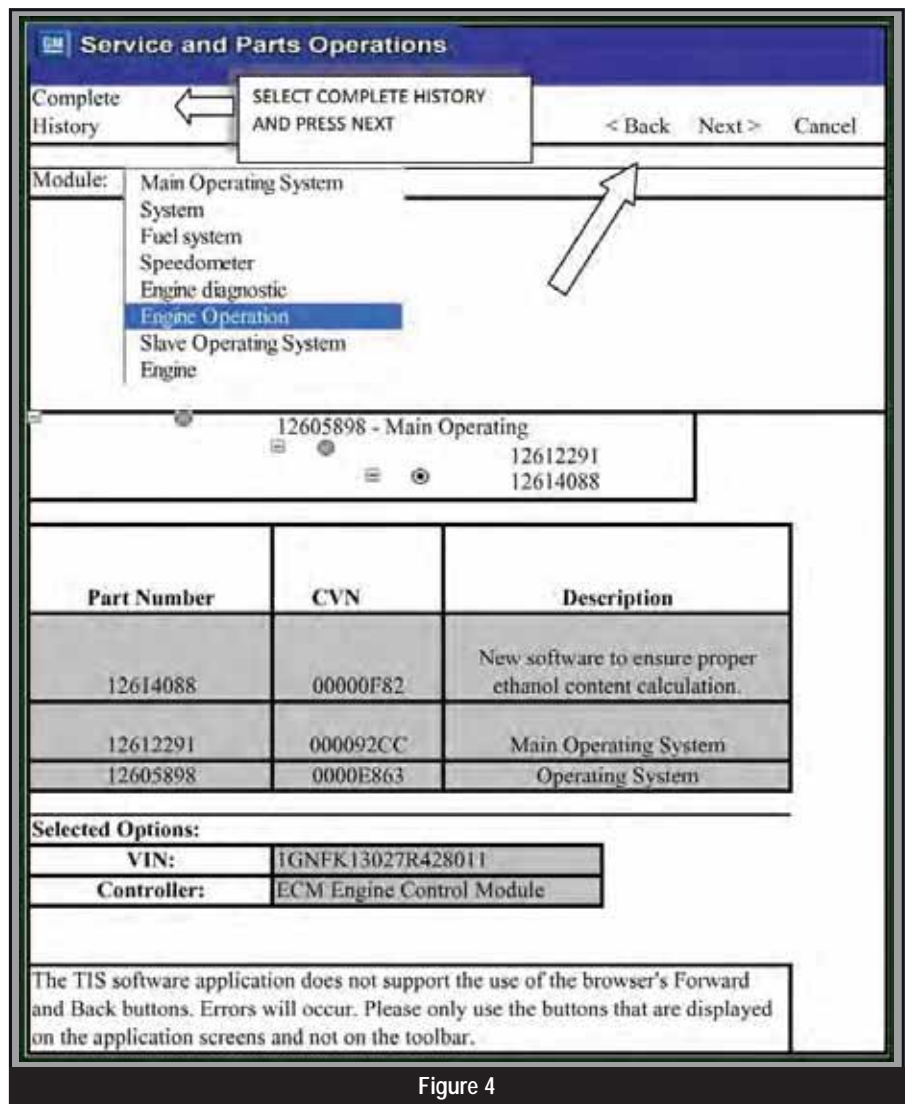

Figure 4
5. You also have another choice, which you should take advantage of: Click the box for Complete History, then click Next. This will give you access to all of the calibrations for the various modules (figure 4).